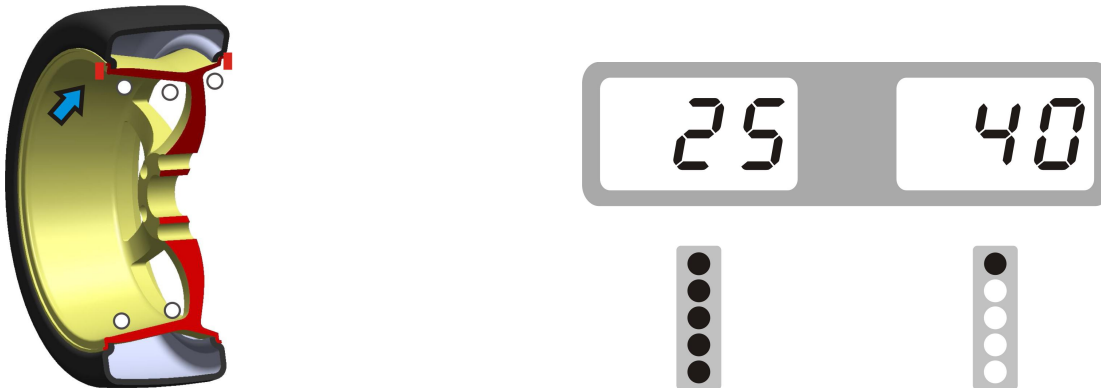

Fig. 4
4.1.7. Anticlockwise moving wheel slowly, the displays with left LED's lit up full indicate the correct angular position where to mount the counterweights (12 o'clock position) inside, as **Fig.4**, clip the counterweight.